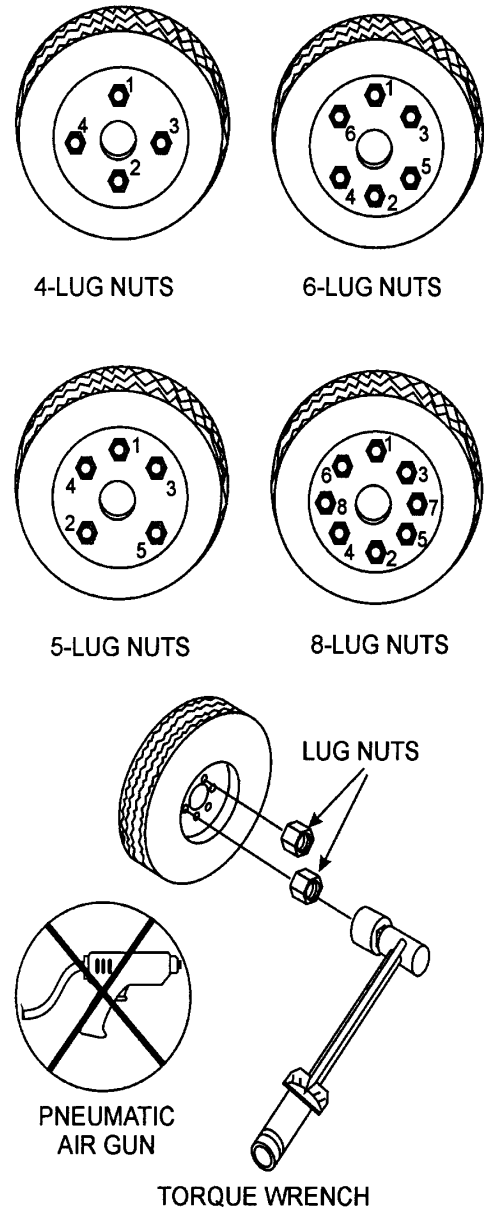

Figure 58. Wheel Lug Nuts Tightening Sequence
12. **Lug Nuts** — Used to secure the wheel to the wheel hub. Always use a torque wrench to tighten down the lug nuts. See Table 18 and Figure 58 for lug nut tightening and sequence.
2. Torque all lug nuts in sequence (see Figure 58). **DO NOT** torque the wheel lug nuts all the way down. Tighten each lug nut in 3 separate passes as defined by Table 18.